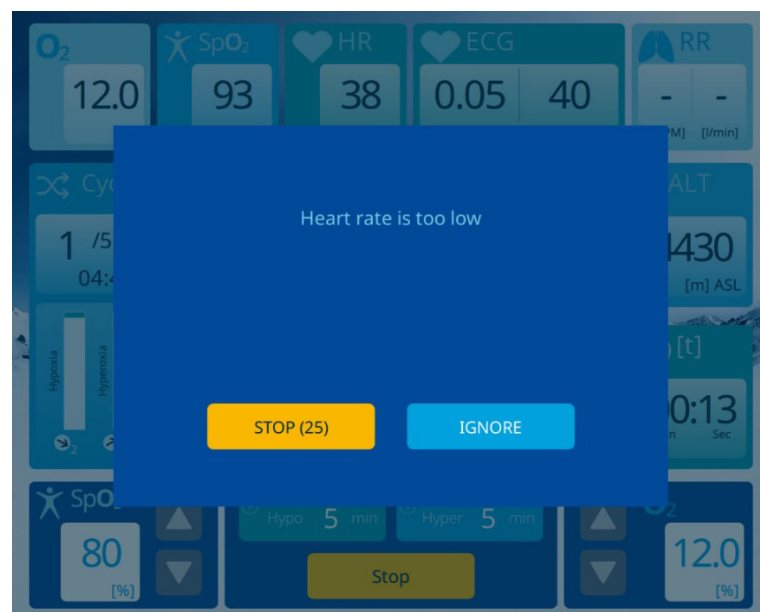

Figure 44 – “Heart rate is too low” message
- “Heart rate is too low” (Figure 44).